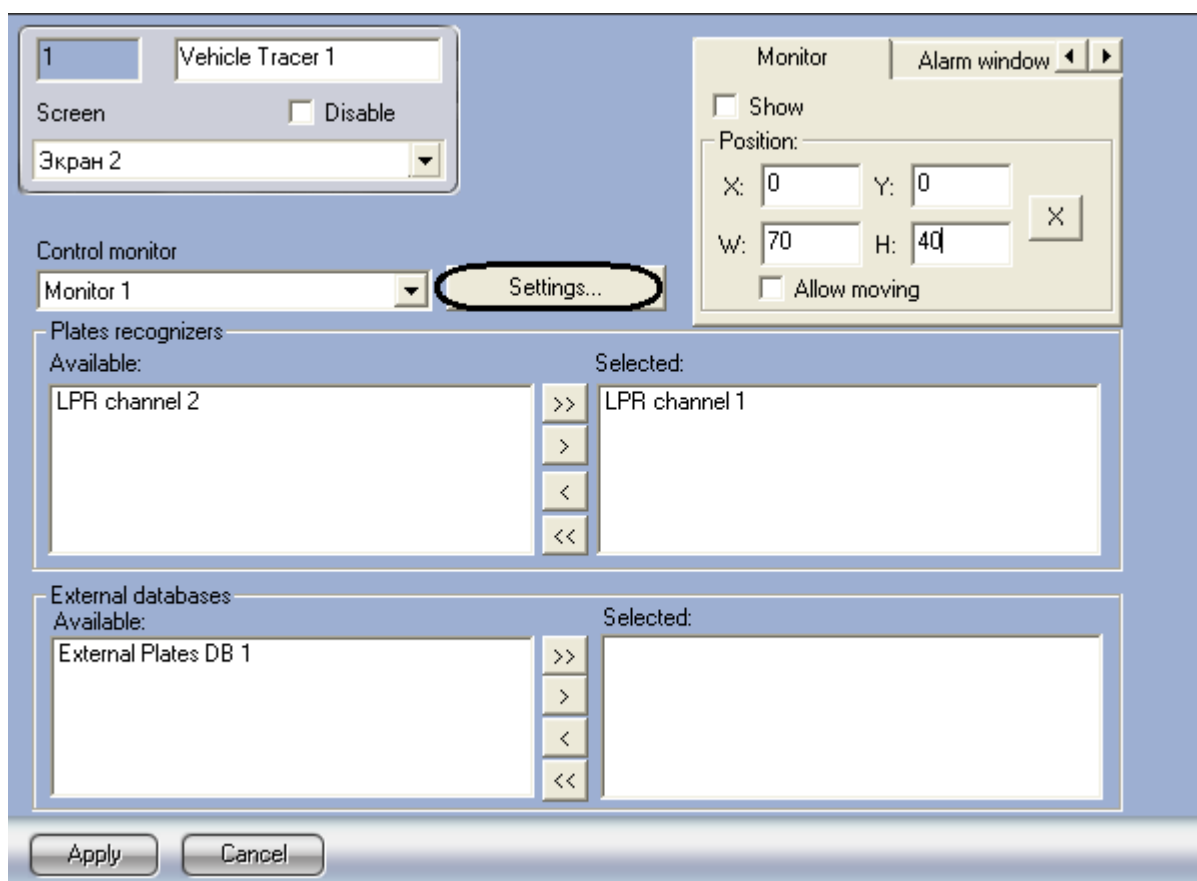

Fig. 7.9—10 Access to the settings of voice notification while registering the alarms
1. Go to the Vehicle tracer settings panel (Fig. 7.9—10).
2. Click «Settings» button (Fig. 7.9—10).